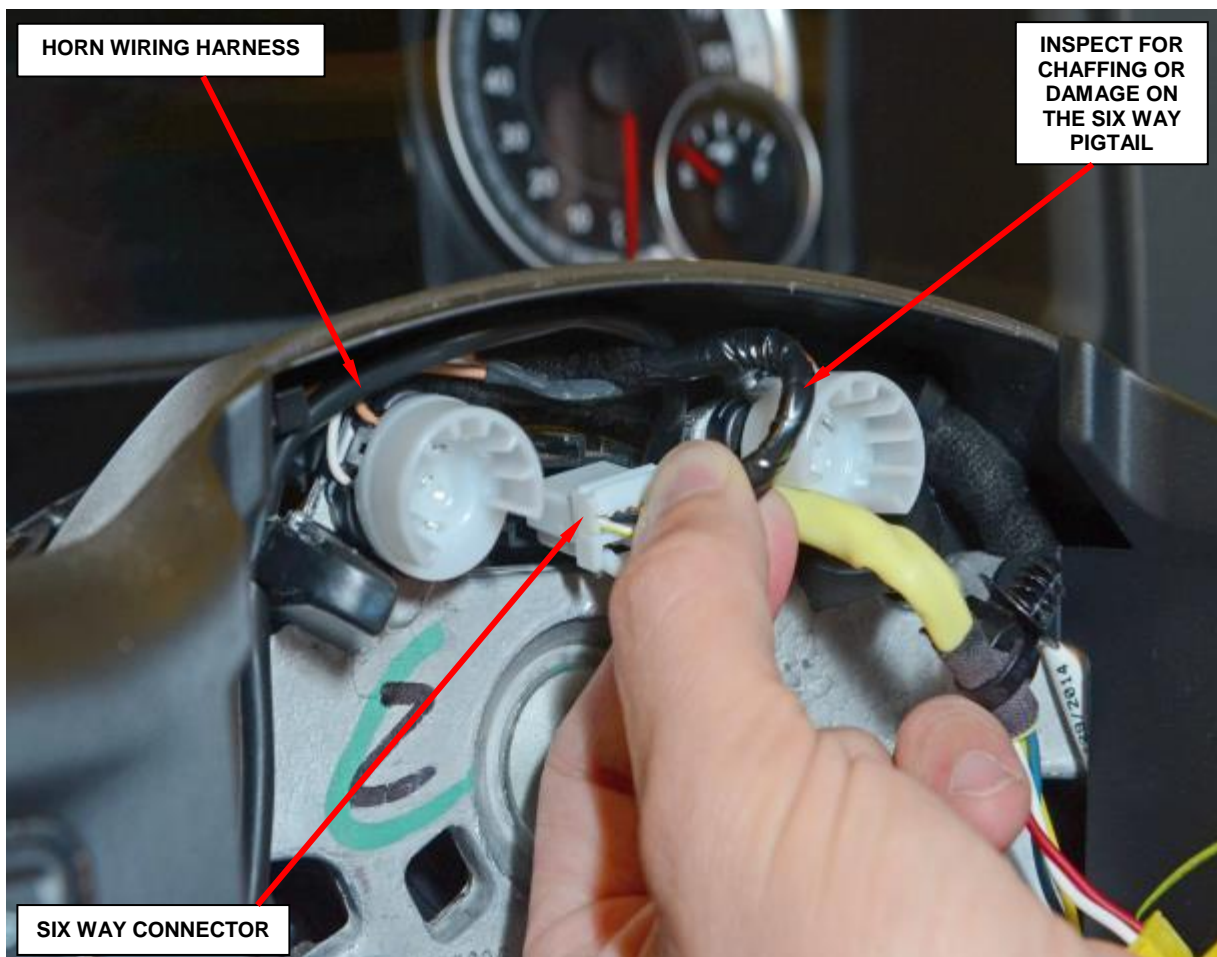

Figure 4 – Inspect For Wire Pigtail Damage
11. Disconnect the steering wheel wire harness six way connector (Figure 4).
12. Inspect the wiring harness for chaffing or damage on the six way pigtail and repair as necessary (Figure 4).
18. Connect the steering wheel wire harness six way connector (Figure 4).